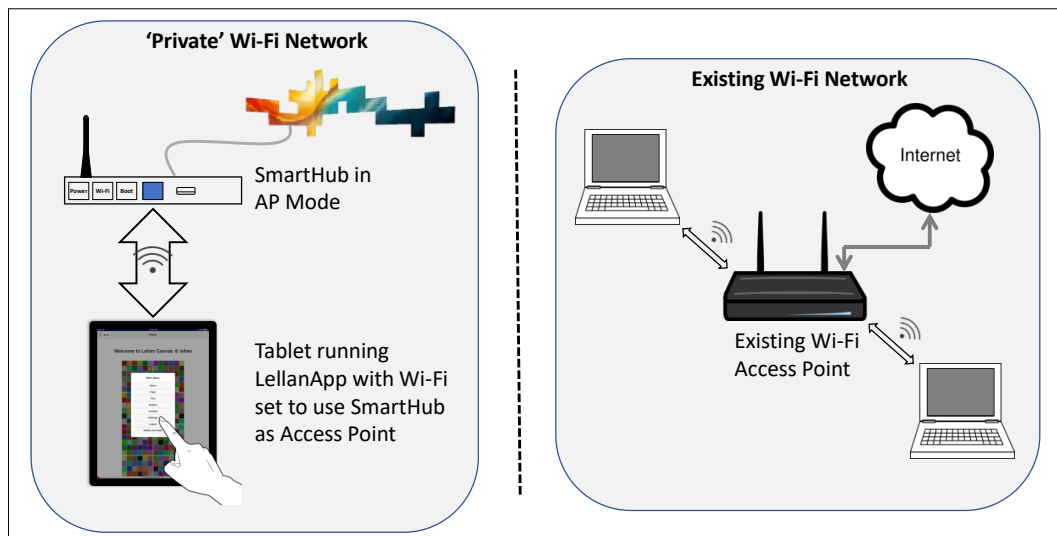

Figure 4-1: AP Mode Illustrated
1. *AP mode*: The SmartHub sets up its own standalone Wi-Fi network that the app device joins as illustrated in Figure 4-1. This standalone Wi-Fi network is separate from any existing Wi-Fi (or wired) networks that may exist in the same location. In this mode, you will need to select a unique SSID and passphrase for the 'new' Wi-Fi network.